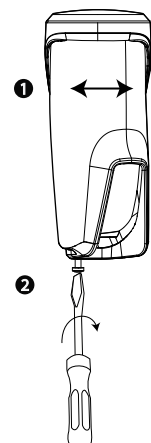

Figure 9:
- When the detector is resting on the unscrewed bracket, it can be rotated freely to a more exact final position. See Hole Number 1 in Figure 9.
7. While the LED is blinking, tighten the bottom screw to close the bracket. See number 2 in Figure 9.